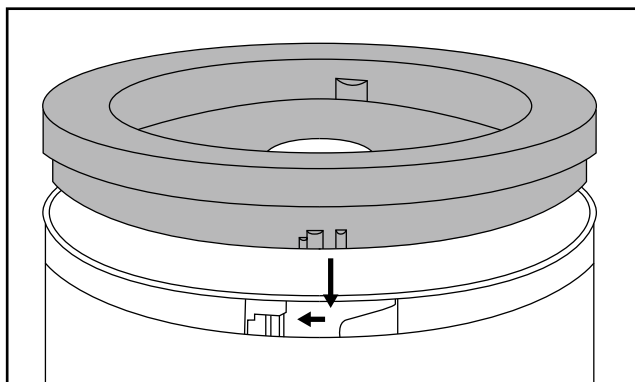

Fig. 1
- Place it onto the bowl **8** so that the tabs on the outer rim of the connecting piece **4** grip into the catches on the bowl **8** (see figure 1).
- 3) Insert the blade holder ⑤ with the emulsifying disc ⑥ onto the bearing ⑨.
- 5) Close the bowl ⑧ with the connecting piece ④:
- Place it onto the bowl ⑧ so that the tabs on the outer rim of the connecting piece ④ grip into the catches on the bowl ⑧ (see figure 1).
- Then turn the connecting piece ④ so that the tabs slide down into the catches.
- 6) Place the motor unit ① onto the connecting piece ④. Make sure that the tabs on the inner edge of the connecting piece ④ grip into the recesses on the motor unit ① and that the motor unit ① sits firmly in place.
- 7) Press the speed button I ②.